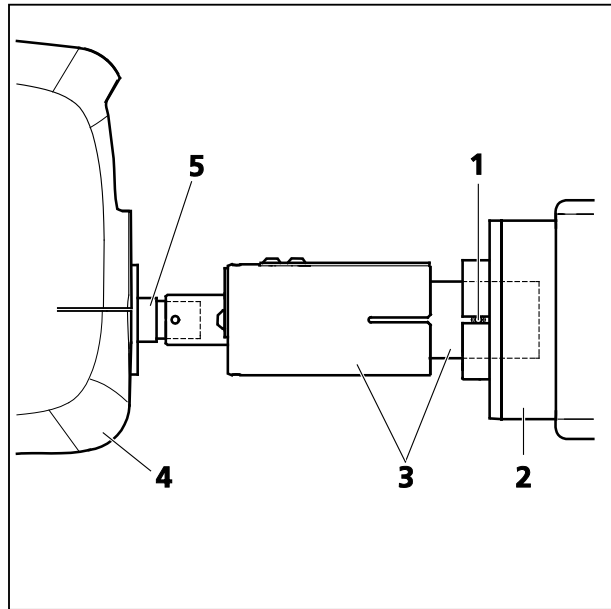

Fig. 27 Tube connection from the periscope housing (2) to the scan head (4).
- First pull out the tube from the periscope cover (Fig. 27/2) by sliding the inner tube into the outer tube (Fig. 27/3).
- Turn the tube assembly counter clockwise to unscrew the tube (Fig. 27/3) from the small black tube (Fig. 27/5) which is fixed to the scan head (Fig. 27/4).
- For rearranging the beam housing, first screw the tube onto the small black tube (Fig. 27/5) at the back of the scan head (Fig. 27/4). It should not be fastened completely to allow the inner tube to fit the side pins into the recess of the ring on the periscope (Fig. 27/2).